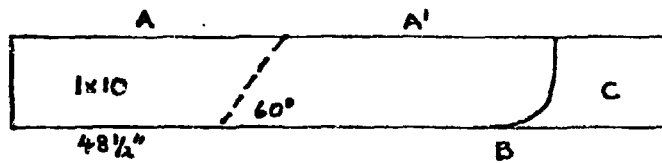

Figure 2
- 3 :TRAY SUPPORTS. If you want six trays, cut 12 tray supports 18" long. Nail with 4 nails each to the 1 x 10's, spaced evenly. Leave 6" at the top for the vent. (Figure 2). Otherwise, nail as many tray supports as there will be trays (up to eleven) on each dryer side.